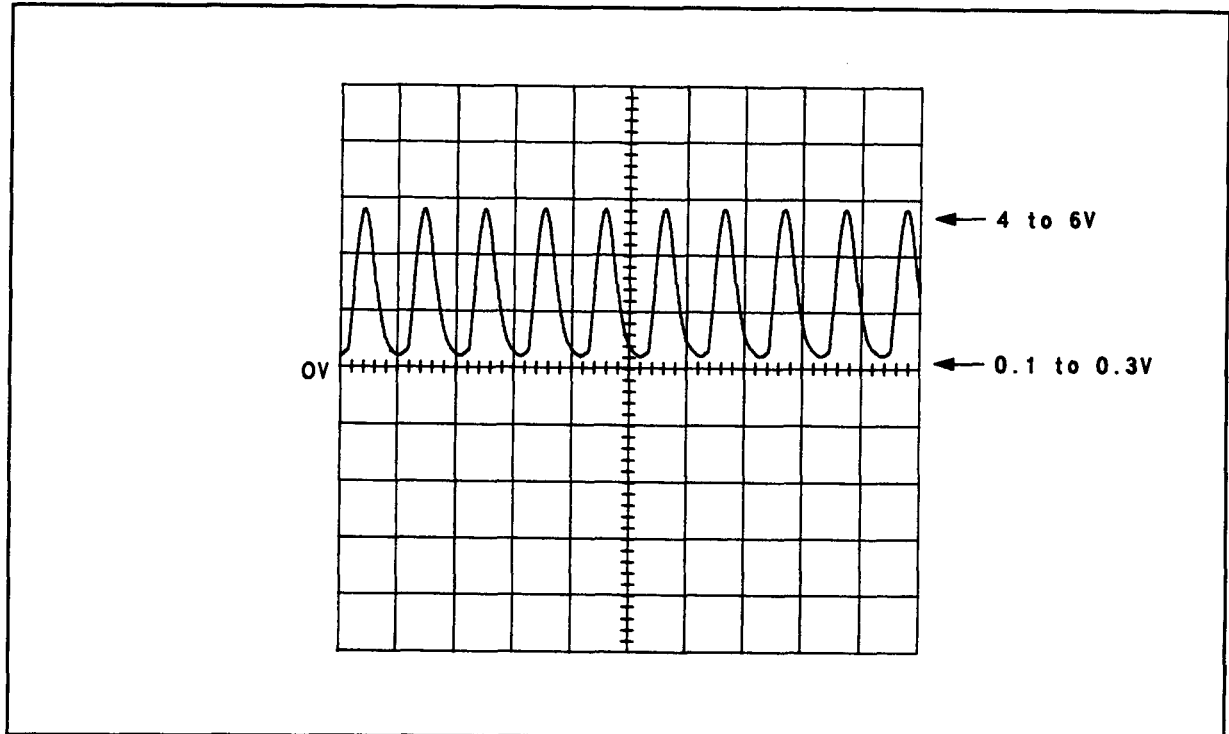

Figure 8F-48. Waveform for  $\sqrt{2}$  Step 8
- Set the oscilloscope to dc coupled and connect it to the collector of Q16. The 10.1 MHz waveform should be as in Figure 8F-48.